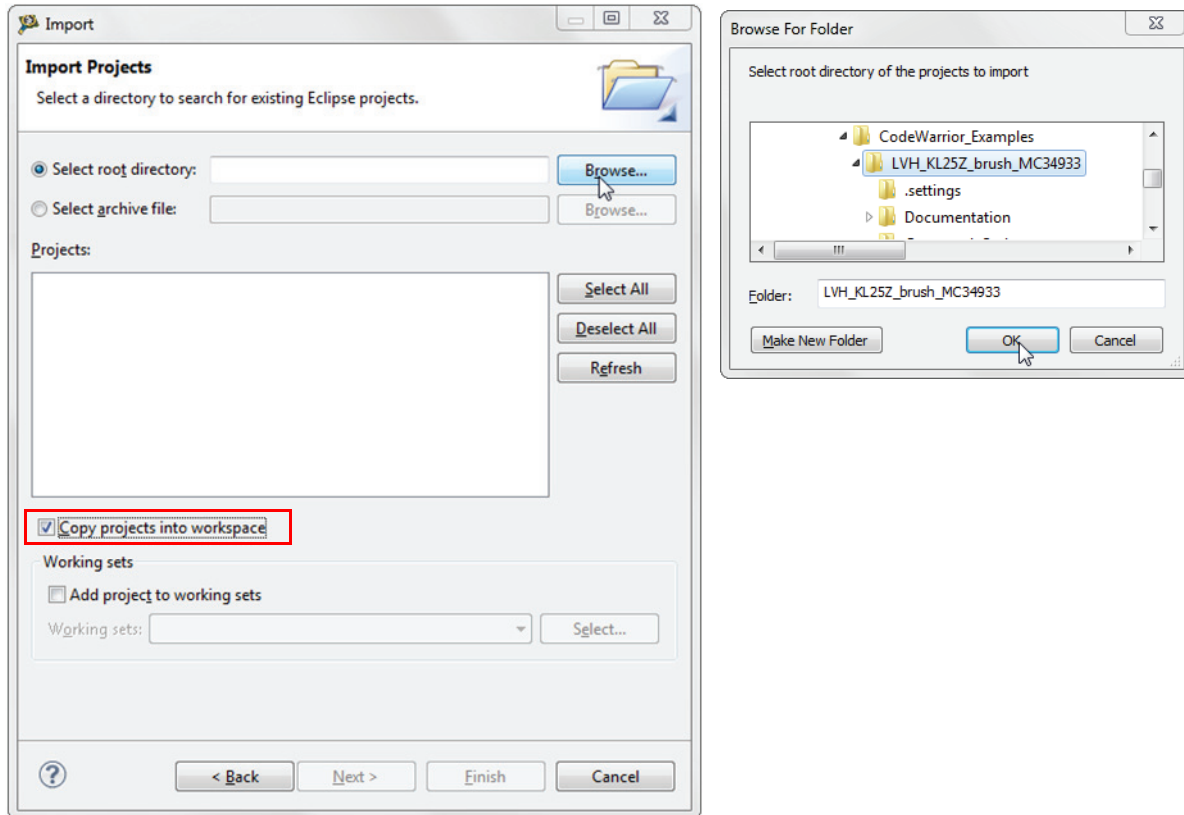

Figure 8. Example project import
2. Locate the example in folder: LVHBridge_PEx_SW\CodeWarrior_Examples (see Figure 8, which shows LVH_KL25Z_brush_MC34933 as the imported project). Then click **Finish**.